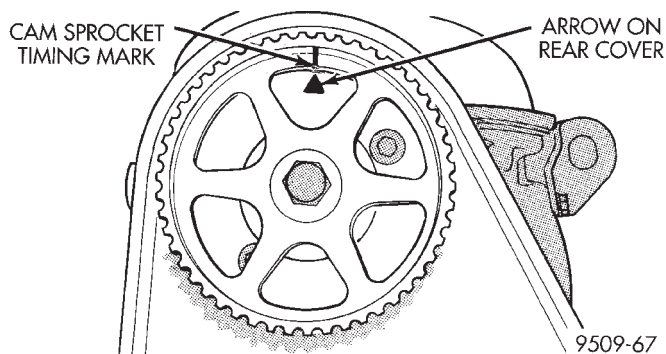

Fig. 54 Camshaft Timing Marks
- Check the timing mark on the camshaft sprocket, it should align with the arrow on the rear belt cover (Fig. 54).